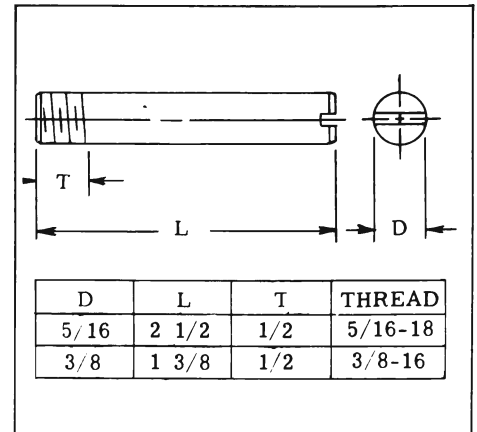

Figure 5-107—Guide Pins
in plain end, as shown in Figure 5-107. These will be used for alignment of parts during assembly.
1. Install a 5/16" guide pin (Figure 5-107) in accumulator bolt hold at each end of flange on
2. Install two 5/16" guide pins (Figure 5-107) in transmission case to guide each end of servo body, and install servo body spacer plate gasket over guide pins.